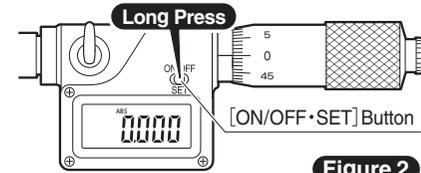
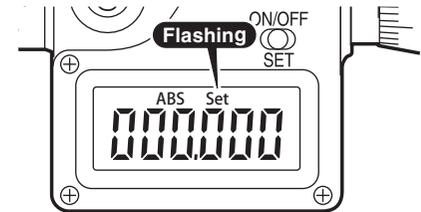

Figure 2
Figure 3
- ③ Press and hold the [ON/OFF·SET] Button as shown in **Fig.2** until "Set" flashes on the Display. (**Fig. 3**) Instrument is now in the mode for setting the Reference Point (or Zero Point).
- ③ ON/OFF・SETボタンを長押しすると(図2)、『Set』が点滅し、原点設定モードになります。(図3)